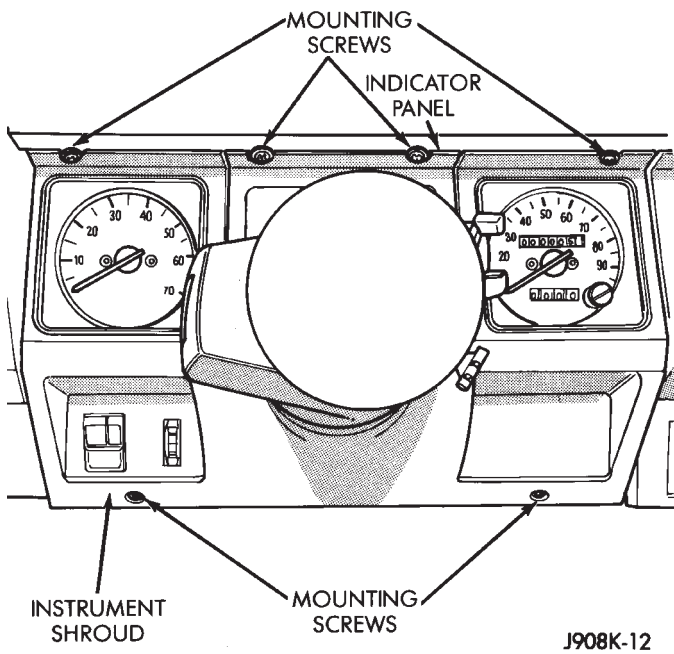

Fig. 3 Instrument Shroud Removal/Installation—YJ
- (1) Remove 6 shroud screws (Fig. 3).